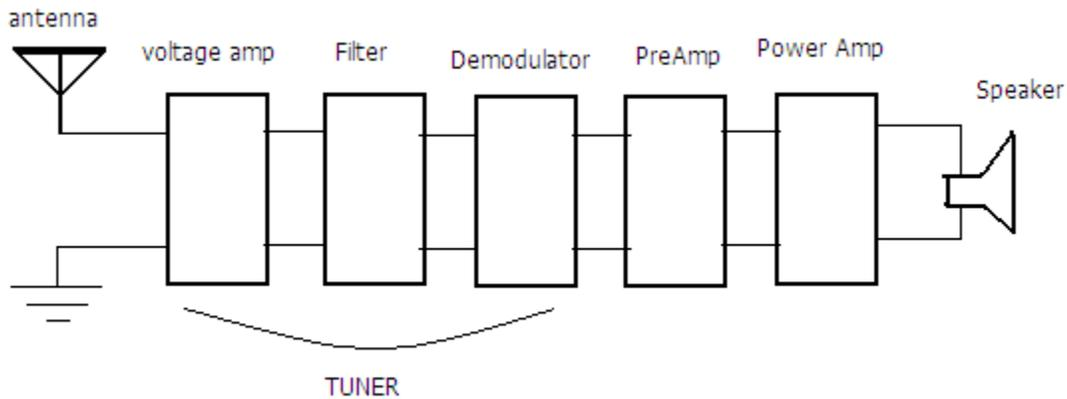

Figure 3: Block Diagram of a Radio
Another example of a complex electronic system consisting of many subsystems is an FM radio shown as a block diagram in Figure 3. The antenna captures the electromagnetic radio frequency (RF) signal and produces a very weak voltage signal that is sent to the tuner. The tuner takes the incoming RF voltage signal and produces an audio signal by employing a voltage amplifier (to boost the weak signal from the antenna), filter circuitry (to select the desired radio station), and a